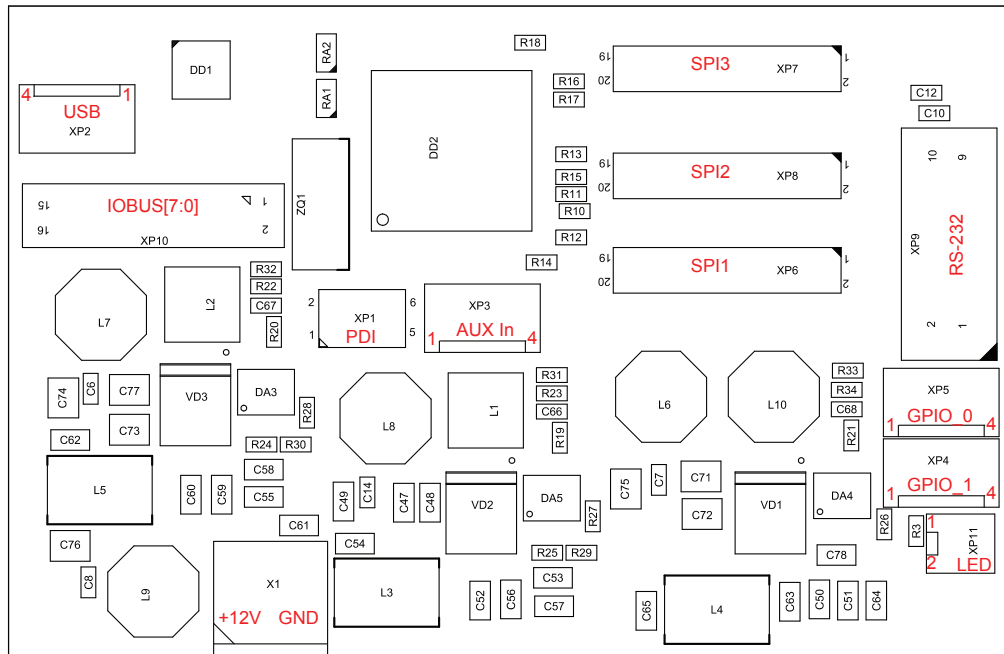

Figure 11: RFCTL Evaluation Board
1. Connect LNO module to the RFCTL board to SPI3 (*Connector 1* in terms of RS2SPI, see fig. 11) via SPI cable (16-pin, 2-mm pitch, IDC flat cable).
is implemented via RS-232 and USB interfaces located on the top side of the board, fig. 11, (USB looks in OS like COM-port), so it can be easily managed by any software which has access to the COM-port of the PC. Only one port can be active, the choice is automatic and remains the same until the power off. The choice of the active port occurs when any byte comes to the one of the ports (not necessary a valid command). The connection via USB is implemented with aid of USB to UART bridge, so from the view point of PC software it looks like a COM-port, fig. 16. This method requires driver installation¹ (integral circuit CP2102). The driver is available for the following OSes: Win2K/XP/2K3, Vista, Windows 7, Mac OS, Linux 3.1.